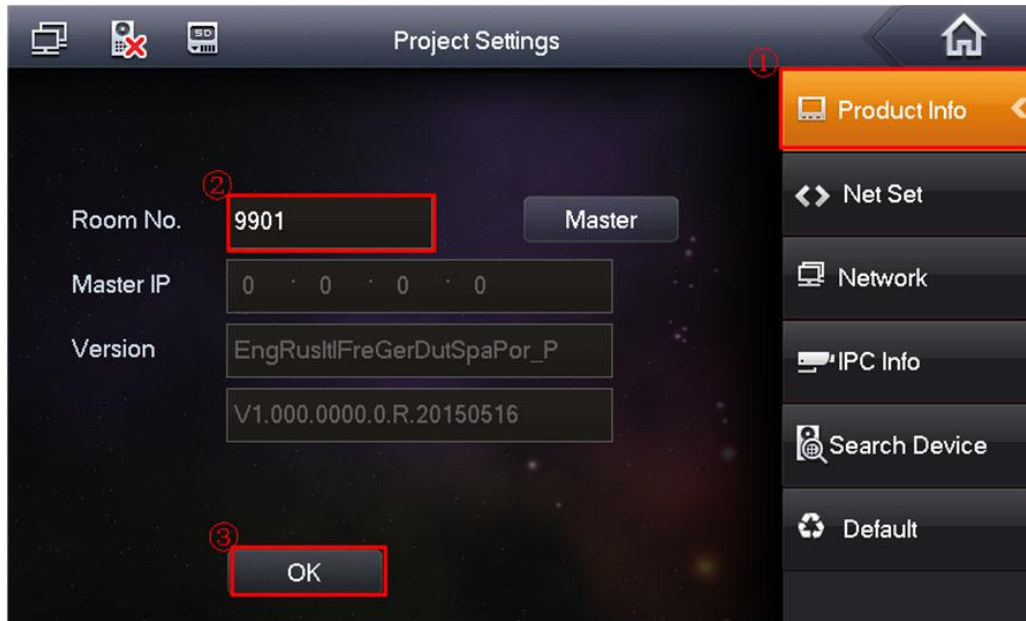

Figure 2-8
c) Set current VTH as the master VTH. See Figure 2-8.